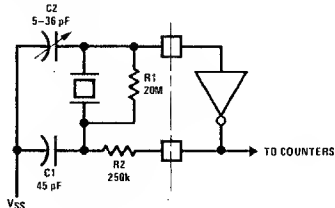

FIGURE 4. Oscillator RC Network
**Time Base:** The precision time base of the watch is provided by connecting a crystal-controlled RC network to the on-chip CMOS inverter/amplifier as shown in *Figure 4*. For proper operation, the network should be tuned to 32,768 Hz. Resistor R1 is used to bias the on-chip inverter for class A amplifier operation. Resistor R2 is used to (a) reduce the voltage sensitivity of the network; (b) limit the power dissipation in the quartz crystal; and (c) provide added phase shift for good start-up and low voltage circuit performance. Capacitors C1 and C2 in series provide the parallel load capacitance required for precise tuning of the quartz crystal. The network shown in *Figure 4* provides greater than 100 ppm tuning range when used with standard X-Y flexure quartz crystals trimmed for  $C_L = 12$  pF. Tuning to better than 2 ppm is easily obtainable.